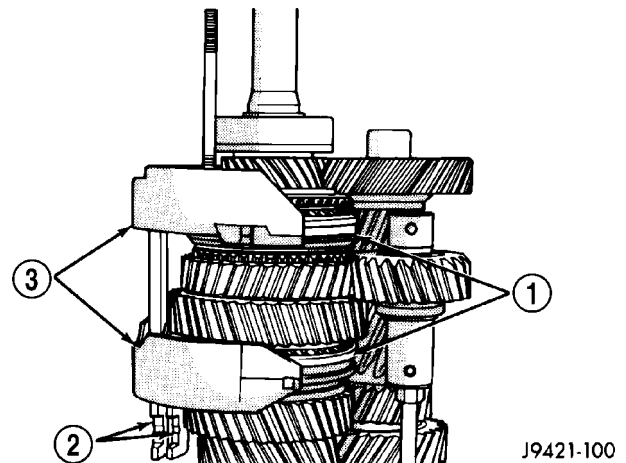

Fig. 94 SHIFT FORKS IN SYNCHRO
(13) Install assembled shift forks in synchro sleeves (Fig. 94). Verify forks are properly seated in sleeves.